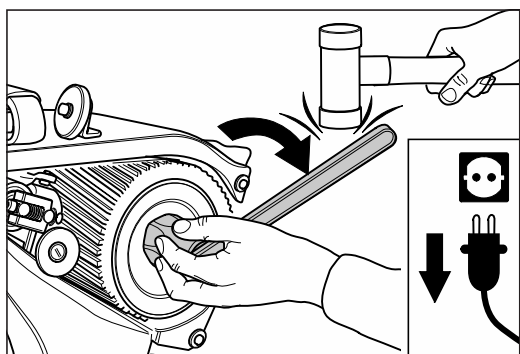

Fig. 54 Release the box nut (**left-hand thread**), if necessary by knocking gently with a soft hammer. **Never use a steel hammer!**
- 8 Open the drum nut using the box wrench (see tool bag). Note that the drum nut has a **left-hand thread** (fig. 54)! If necessary, take a soft hammer to help you loosen the nut. **Never use a steel hammer!**